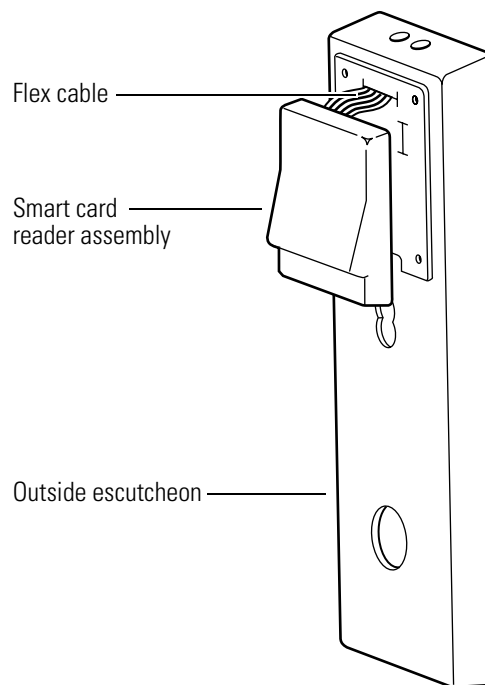

Figure 9.19 Removing the smart card reader assembly from the outside escutcheon
3. Remove the smart card reader assembly from the outside escutcheon, sliding the flex cable through the slot in the escutcheon. See Figure 9.19.